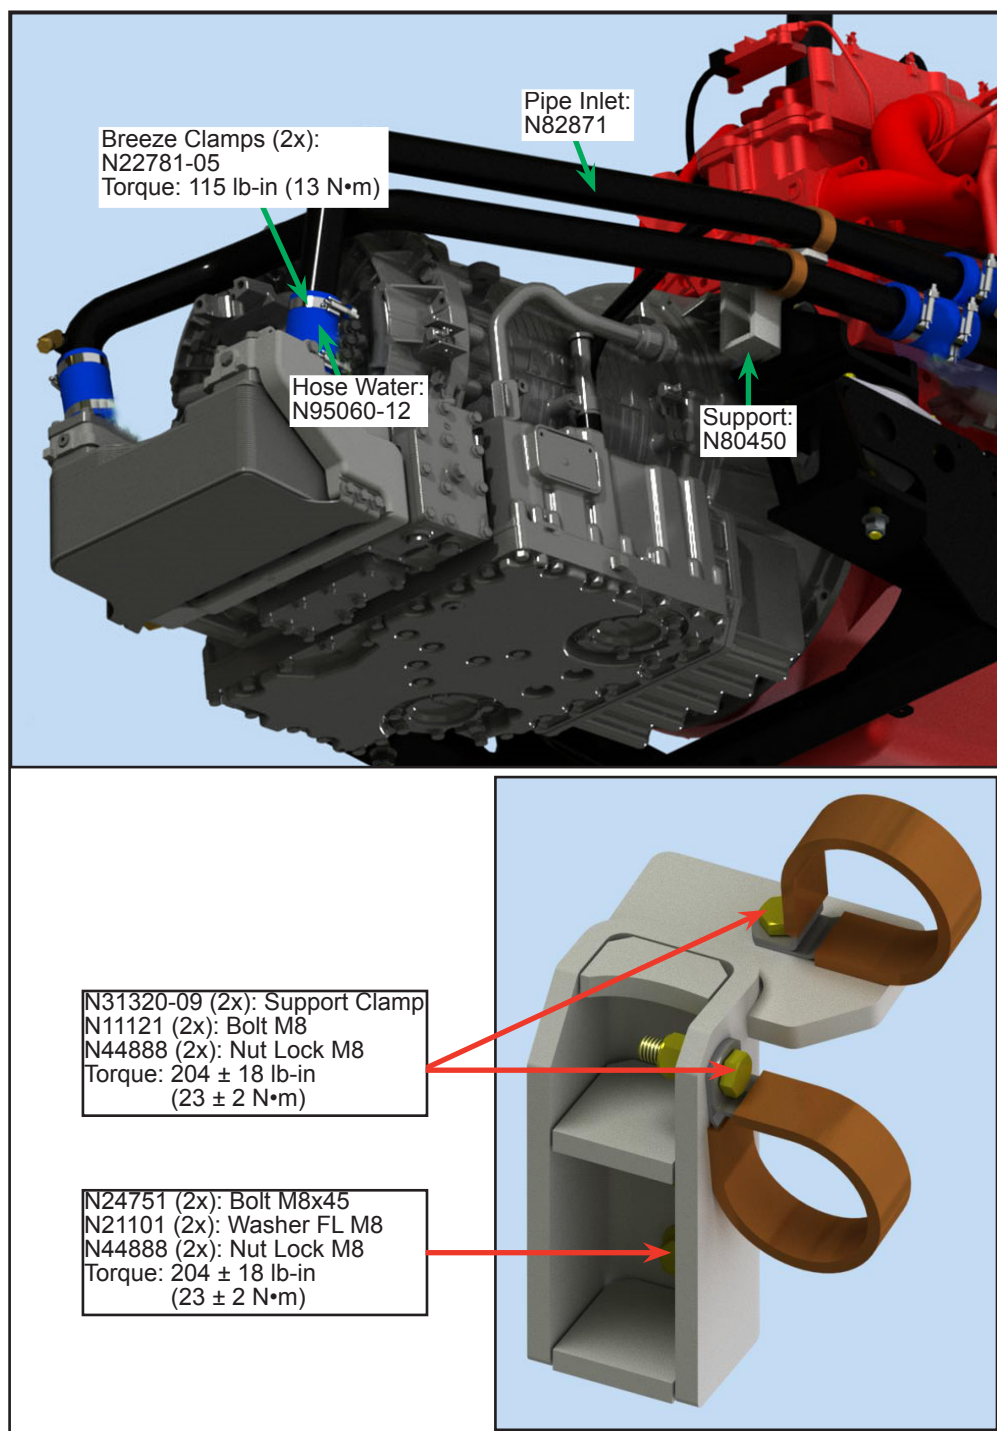

Figure 8 - Typical View of Transmission Cooling Pipes and its Accessories
- 1.14. Install the new support (N80450) with screws (N24751), lock washers (N21101) and nut locks (N44888) (see Figure 8).
- 1.15. Install the hoses (N95060-12) with breeze clamps onto the cooling pipe line (N82871) and secure the lines to the support with the new clamps (N31320-09) and tighten them using locknuts (N44888) and screws (N11121). Tighten to specified torque (see Figure 8).